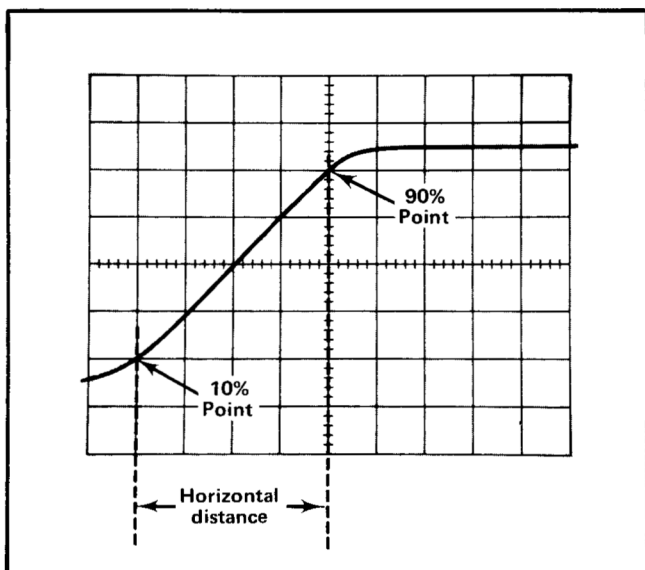

Fig. 2-20. Measuring risetime.
8. Adjust the horizontal POSITION control to move the 10% point of the waveform to the first graticule line. For example, with a five-division display as shown in Fig. 2-20, the 10% point is 0.5 division up from the start of the rising portion.
Example. Assume that the horizontal distance between the 10% and 90% points is four divisions (see Fig. 2-20) and the TIME/DIV switch is set to 1 μ s with the MAG switch set to X10.